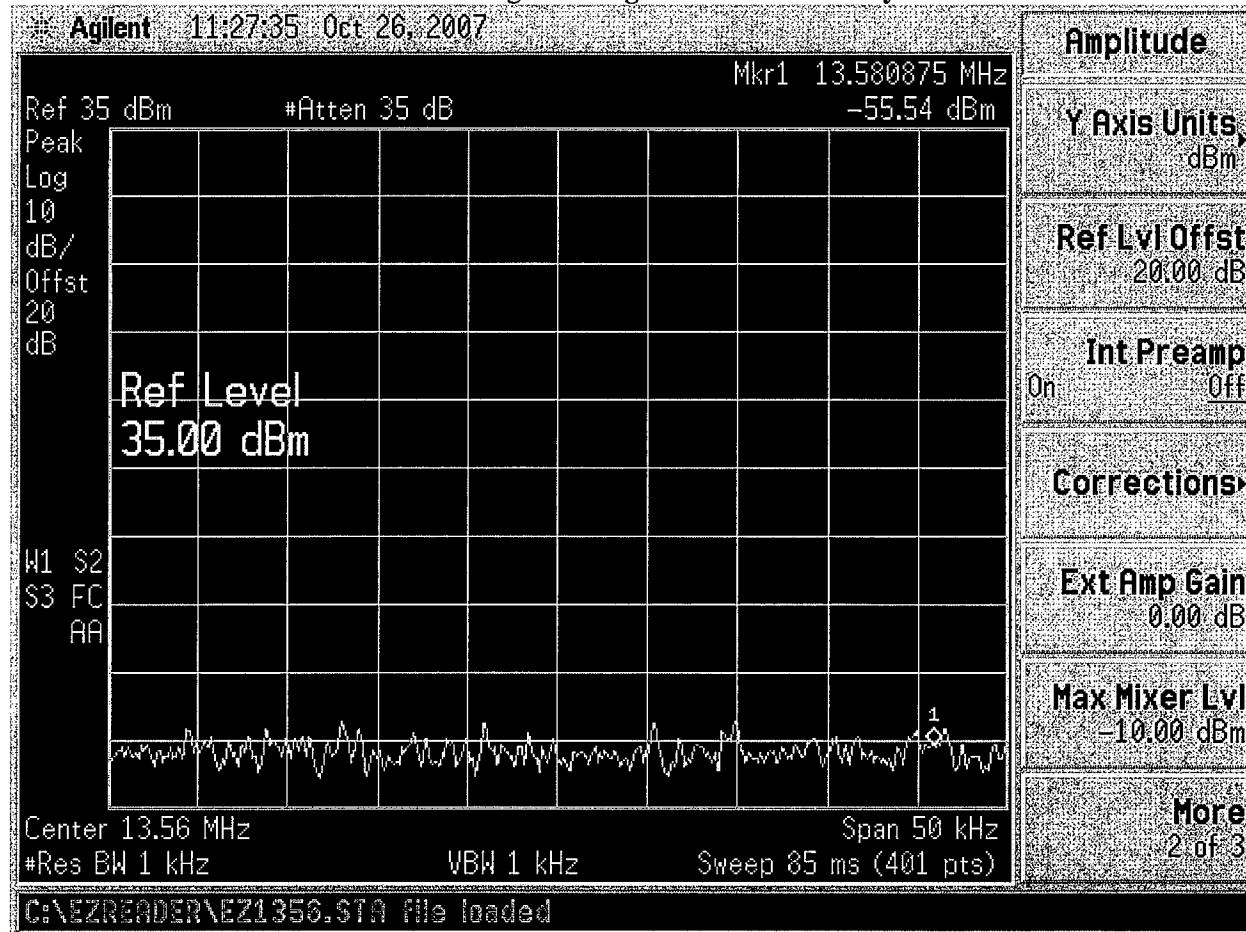

Figure 3
9.3 Screen should look like Figure 3. Right hand column may differ.